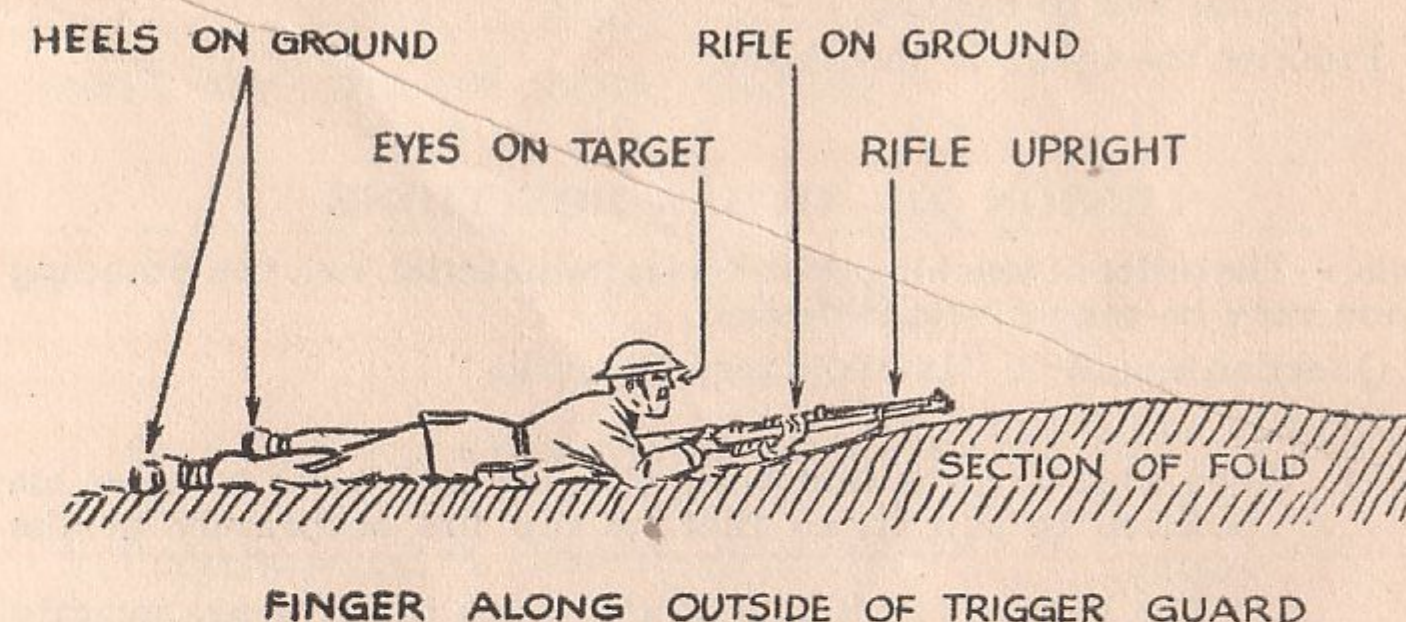

Fig. 25
**Position of Readiness.**—On the "Range" being ordered, set the sights (or, if acting individually, set the sights to the estimated range) slide the rifle cautiously forward over the cover and adopt a position as near the loading position as possible, safety catch forward. (*See Fig. 25.*)